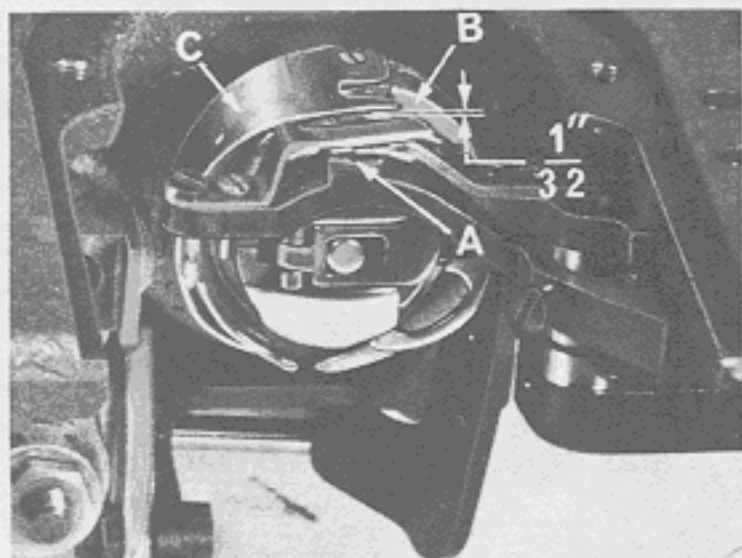

Fig. 12A
3. Assemble positioning finger and knife assembly into machine. Adjust the bobbin case holder positioning finger and knife assembly by turning the bobbin case holder until the finger recess is at the top. Place the projection (A, Fig. 12A) on the positioning finger into the bobbin case holder recess (B) and tighten the finger and knife assembly attaching screws securely, allowing  $1/32$  inch clearance between the outside edge of projection and the inside edge of bobbin case recess (Fig. 12A).
- (a) Rotate handwheel in operating direction until the needle clearance cut in the deflector plate (C, Fig. 12A) on the rotating hook assembly is in line with the needle on the up stroke of the needle bar.